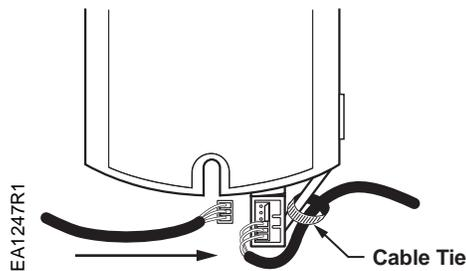

Figure 21.
Insert the plug into the Post Header AMP from the left to prevent damage to the cable wires. See Figure 21.
1. The open bracket (See Figure 21), to the right of the actuator, is used for strain relief of the customer purchased daisy chain cable (See *Required Tools*).